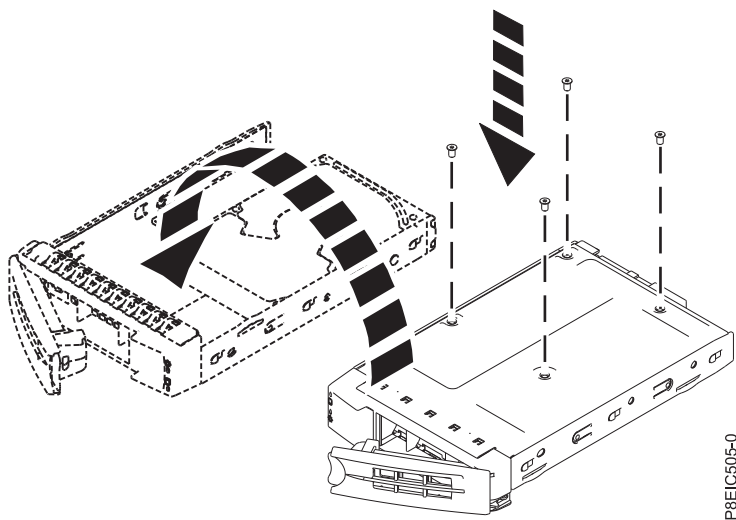

Figure 5. Mounting the 2.5 inch drive in the tray
- A 2.5 inch drive must be positioned at the rear of the tray. While you hold both the drive and the tray, turn the tray over. Fasten the drive to the bottom of the tray with four screws, as shown in Figure 5.